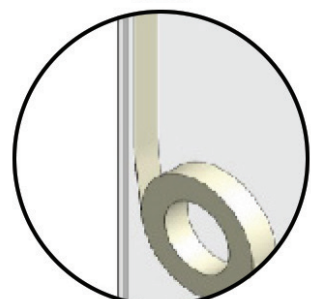

FIG 15.
- Hold glass to glass join in place with insulation/gaffa tape (**FIG 15**).